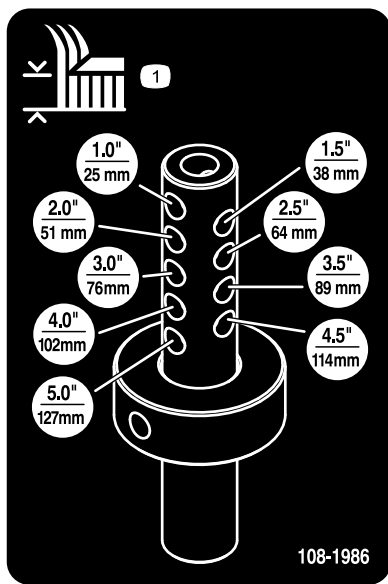

Figure 10
6. Align the height-of-cut collar to the desired height-of-cut holes on the height of cut rod (Figure 10).